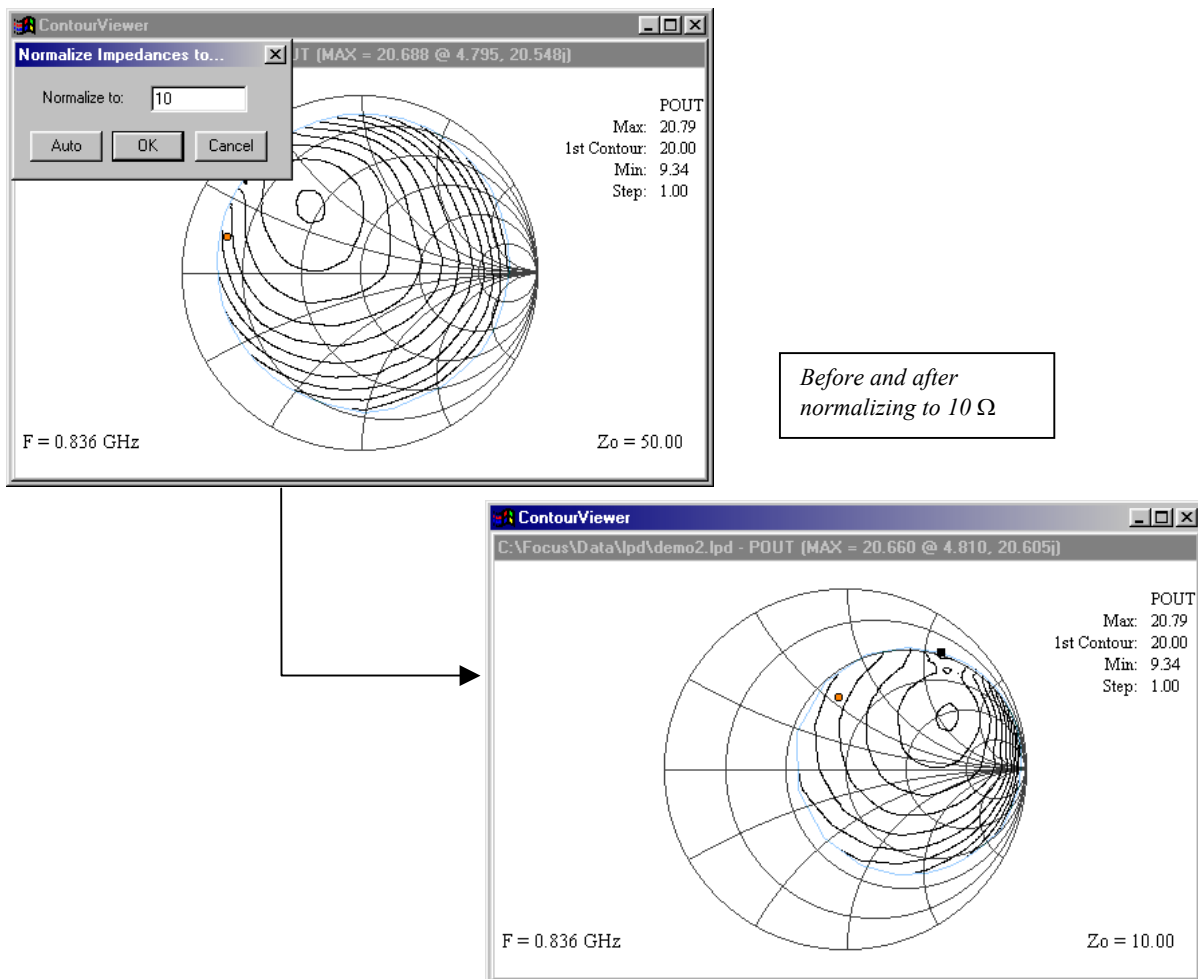

Figure 13: Normalizing the Smith Chart Plot
- Normalize Smith Chart plots to some real impedance value or perform an automatic normalization (Figure 13).